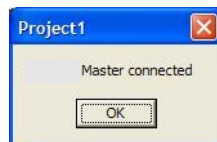

Figure 6
5. Wait for automatic connection, a popup is displayed as in Figure 6. If connection is not automatic the press the "connect" button. If there is no response there is a problem with the USB connection or your operating system that can not detect the USB device